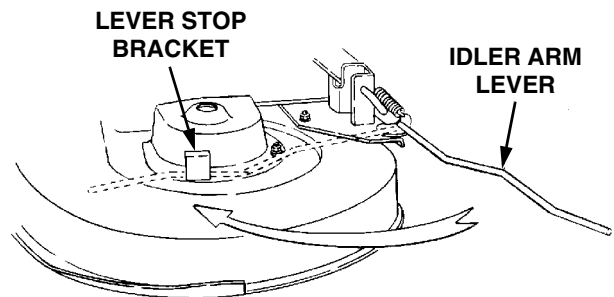

Figure 56
14. While holding the belt in position, rotate and engage the deck idler arm lever into its stop bracket to provide tension on the PTO belt (See Figure 56).